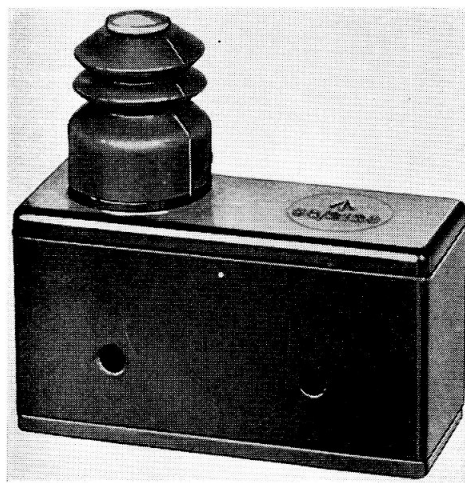

Fig. 1. Micro switch, Type 1
5. These switches are all similar externally, a typical switch being shown in fig. 1 and a sectional view of the Type 4A is given in fig. 2. When the plunger is depressed, the central arm of the spring is moved beyond its equilibrium position, and the spring system moves over with a snap action to the lower contact or contacts.